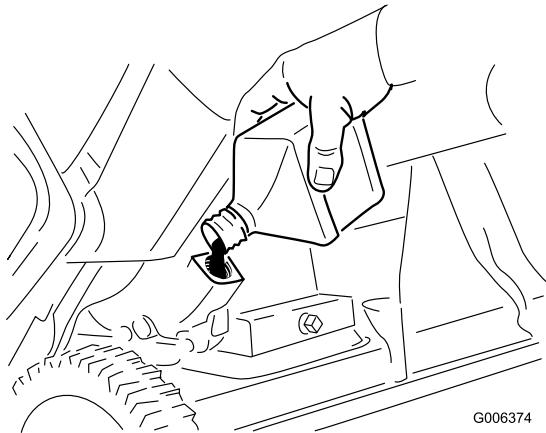

Figure 32
8. With the machine in the operating position, **carefully** pour oil into the oil fill hole. Wait 3 minutes for the oil to settle and add enough to bring it to the point of overflow. There should be very little, if any, oil left in the bottle (Figure 32).